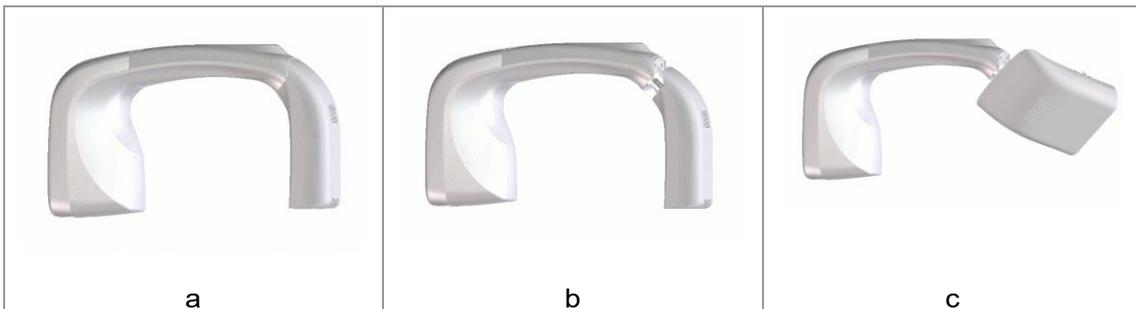

Figure 18
4. Press the button ">O<" on the keyboard the following message will be displayed on the GUI: "CEPH ENTRY STATUS: OPEN FLAT PANEL". The mechanism holding the 3D panel will be unlocked and the 3D detector will move down by a few centimeters (Figure 18-b).
5. Rotate the 3D panel counterclockwise (Figure 18-c) until it locks in place. After one second the equipment will automatically run the axis positioning